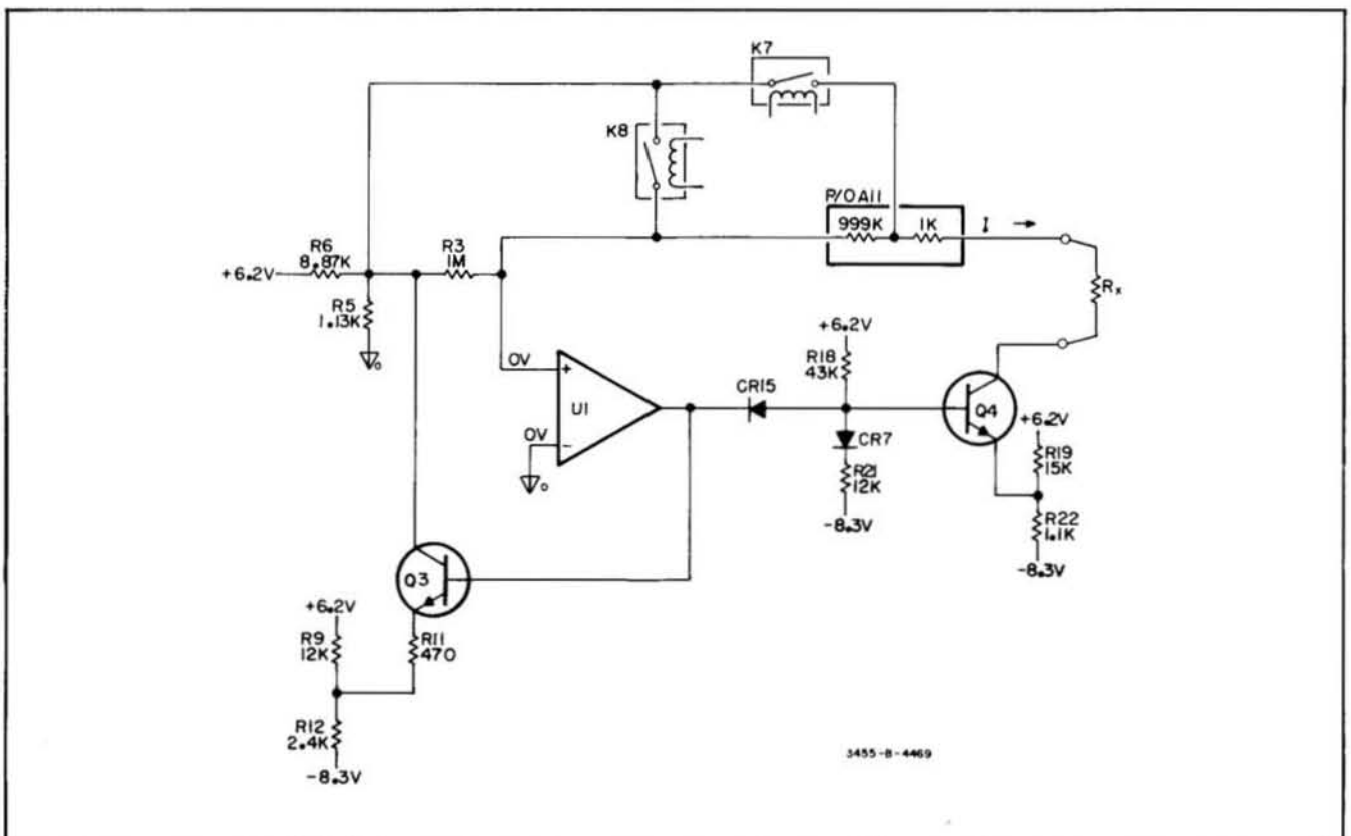
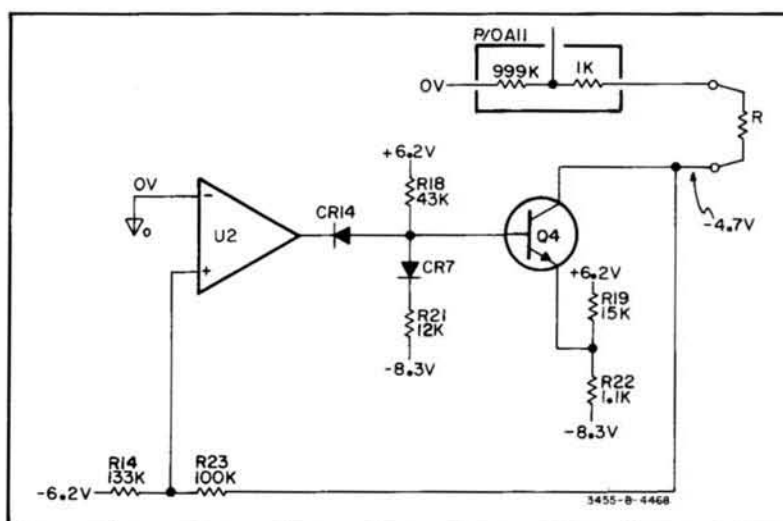

Figure 8-21. Ohms Converter Current Source.
Figure 8-22. Ohms Converter Voltage Limit.
**8-70. Current Source.** Figure 8-21 shows a simplified schematic of the current source used in the ohms converter. The circuit is designed to provide an output current of .7 mA or .7  $\mu$ A. Output current is determined by resistors R3, R5, and R6. During the .7 mA mode of operation, (100 ohm through 100 kilohm ranges) relay K8 shorts resistor R3. The output current is then determined by R6 and is equal to the reference voltage (+ 6.2 V) divided by the resistance of R6, or  $I_O = 6.2/8.87 K = .7$  mA. During the .7  $\mu$ A mode of operation, (1 megohm and 10 megohm ranges) both K7 and K8 are open. Resistors R5 and R6 form a divider which divides the + 6.2 V reference to + .7 V. The output current is now determined by the .7 V across R3 or  $I_O = .7 V/1 M = .7 \mu$ A. Operational Amplifier U1 drives output transistor Q4 and provides the gain necessary to maintain the proper output current. Relay K7 is used to select a reference resistance of 1 kilohm for the .1 kilohm through 10 kilohm ranges or 1 megohm for the 100 kilohm through 10 megohm ranges. Both the reference resistance and the unknown resistance are in the feedback circuit of the operational amplifier.
**8-71. Voltage Limit.** Figure 8-22 shows a simplified schematic of the voltage limit circuit used in the ohms converter. During the current mode of operation the non-inverting input of U2 is positive, as referenced to ohms ground. In this mode the positive output of U2 is blocked by CR14, making the voltage limit circuit inoperative. As the resistance of  $R_X$  is increased the collector voltage of Q4 becomes more negative. This change is coupled to the non-inverting input of U2 through the voltage divider composed of R14 and R23. As the input of U2 approaches 0 V the output reverses polarity and forward biases CR14. At this point U2 takes control of output transistor Q4 and maintains a constant voltage of approximately -4.7 V dc at the collector. During the time the ohms converter is in the voltage limit mode, transistor Q3 supplies the feedback necessary to balance the current source circuit (see Figure 8-21). The converter operates as a voltage source when measuring resistances greater than 5.8 kilohm on the 100 ohm through 100 kilohm ranges and greater than 5.8 megohm on the 1 megohm and 10 megohm ranges.